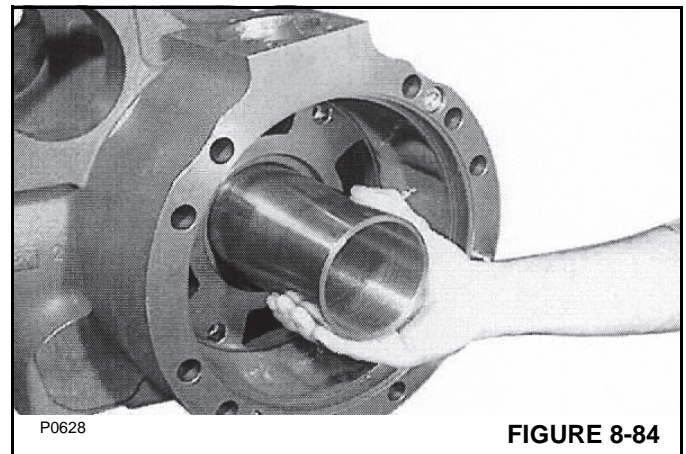

FIGURE 8-84
4. Insert SPECIAL TOOL P/N 1901778 (*false differential box*) into the center housing (Figure 8-84). Check that the false differential box is inserted into both brake flange housings.